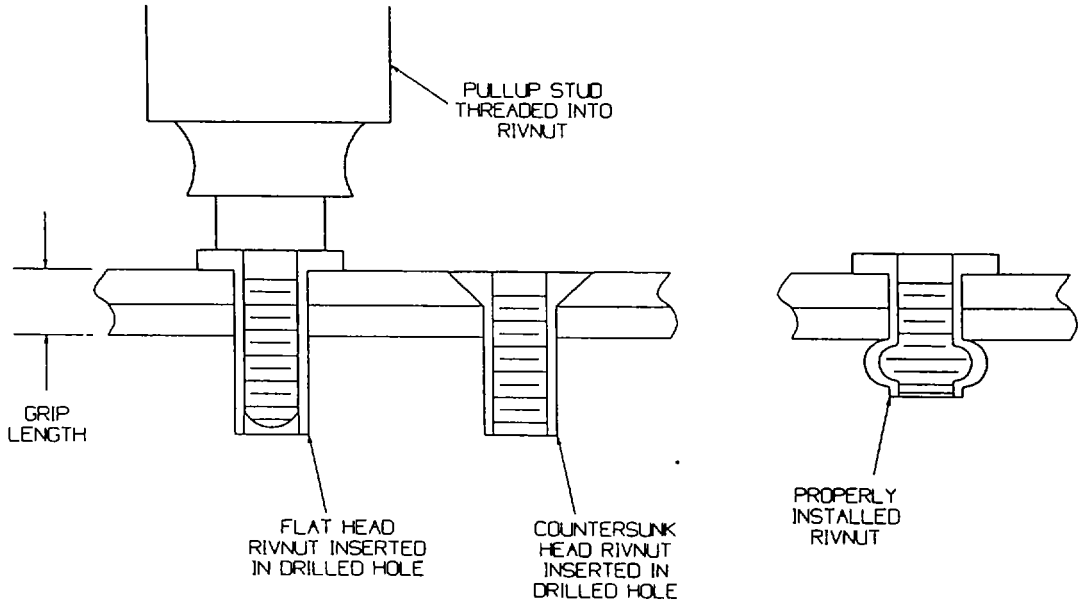

Figure 5-5. Rivnut Installation
(1) Installation (Figure 5-5).